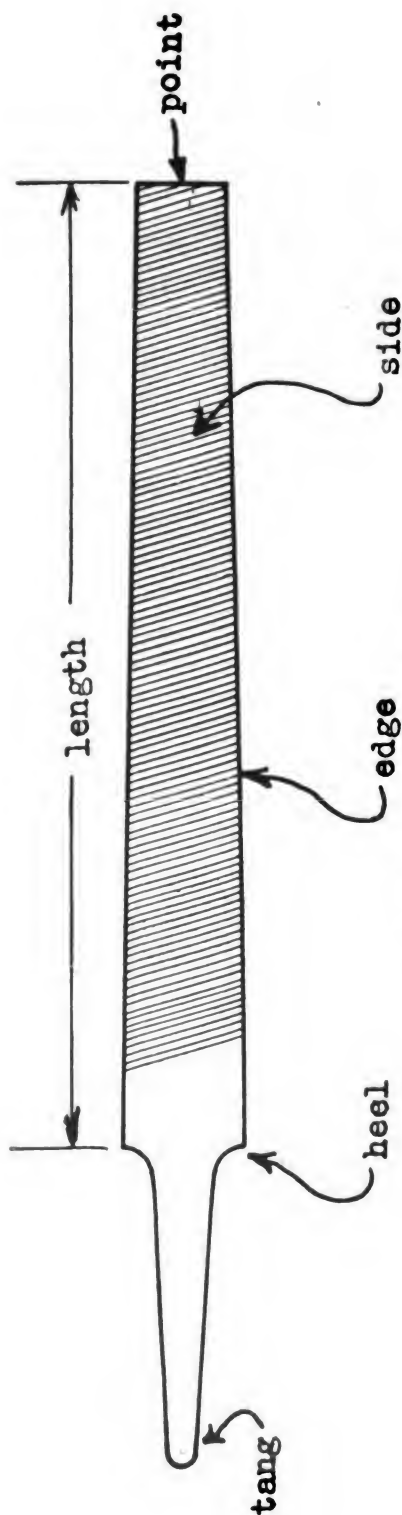

FIGURE 5.—Single cut flat file.
**7. Files.**—*a.* A file is a bar of hard steel having cutting edges or teeth on its surface and perpendicular to its length. The name given to various parts of the file are shown in figure 5 which represents a single cut flat file. Files are made in a number of shapes, the most